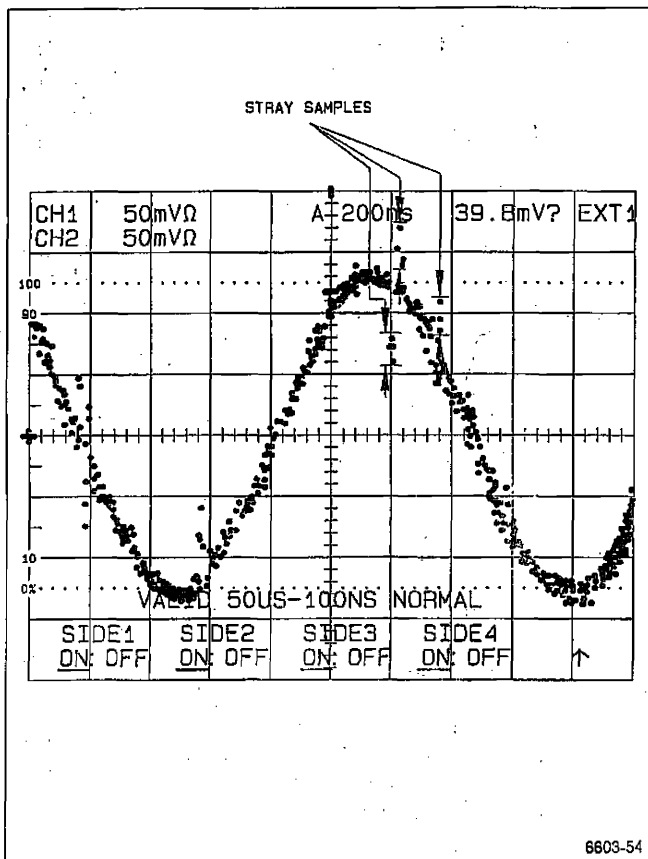

Figure 5-8. CH 1 with L-clocks correctly adjusted, but with stray samples.
1. Coarse adjust the CH 1 A and T clocks: Vertically position the CH 2 display off screen. Look at Figure 5-8 and note the stray samples labeled there. If the CH 1 display has similar "stray samples"—samples obviously offset from the well-aligned samples—adjust the CH 1 A and T clocks to align these stray samples. Begin with T1D and T1S, and if necessary you can adjust A2S. Push A HORIZONTAL MODE after making each adjustment, iterating between making the adjustment and pushing A MODE as was done for the L-clock adjustment.
1. Coarse adjust the CH 1 A and T clocks: Vertically position the CH 2 display off screen. Look at Figure 5-8 and note the stray samples labeled there. If the CH 1 display has similar "stray samples"—samples obviously offset from the well-aligned samples—adjust the CH 1 A and T clocks to align these stray samples. Begin with T1D and T1S, and if necessary you can adjust A2D and A2S. Push A HORIZONTAL MODE after making each adjustment, iterating between making the adjustment and pushing A MODE as was done for the L-clock adjustment.